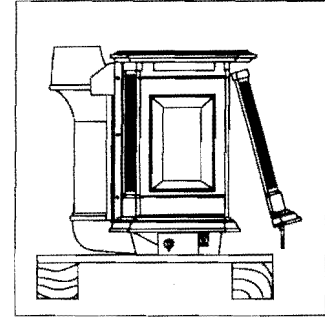

Figure 2.
**Step 3.** Lift the Front Panel from the bottom and pull it up and forward away from the stove. Fig. 2.